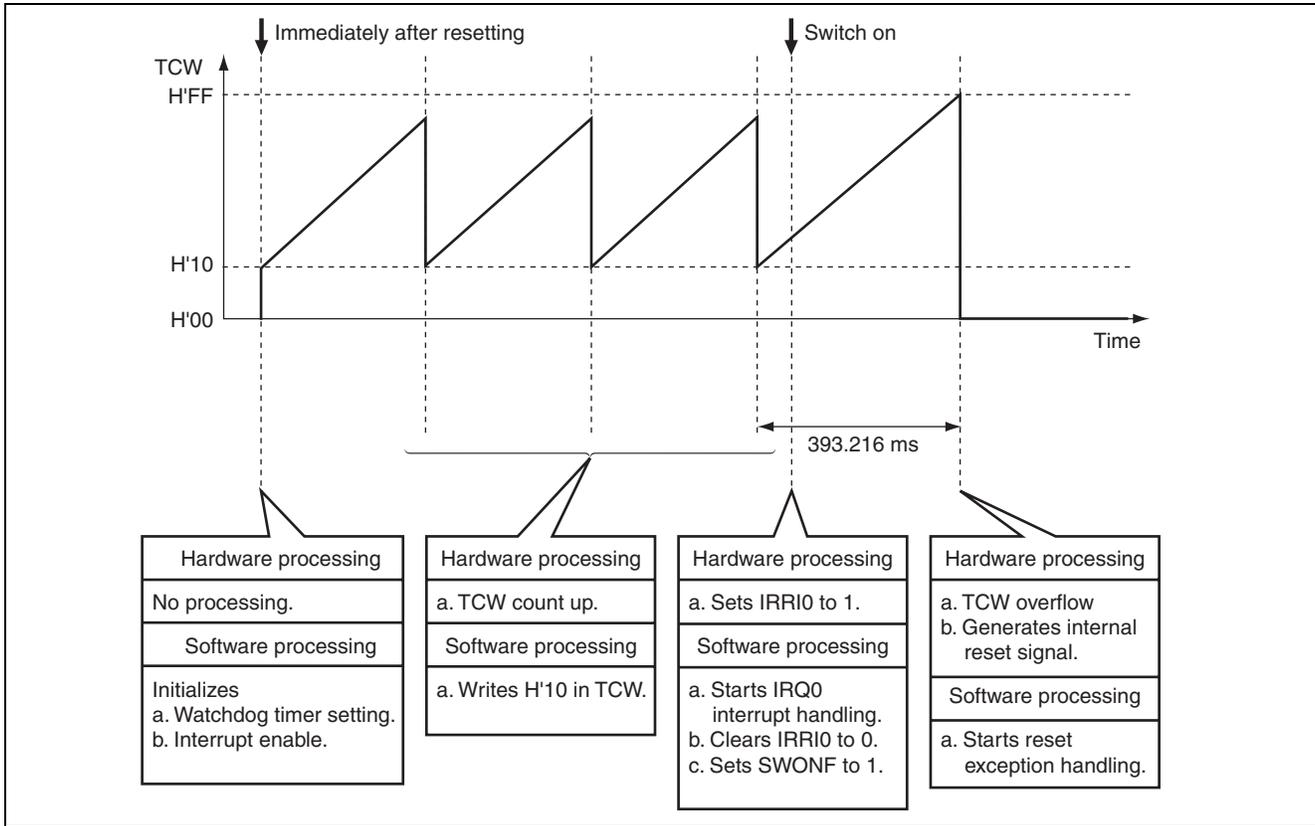

Figure 3.1 Operation Principle of Watchdog Operation by Watchdog Timer Function
1. Figure 3.1 illustrates the principle of operation of this sample task. As shown in figure 3.1, watchdog operation is performed by the watchdog timer function by means of hardware processing and software processing.